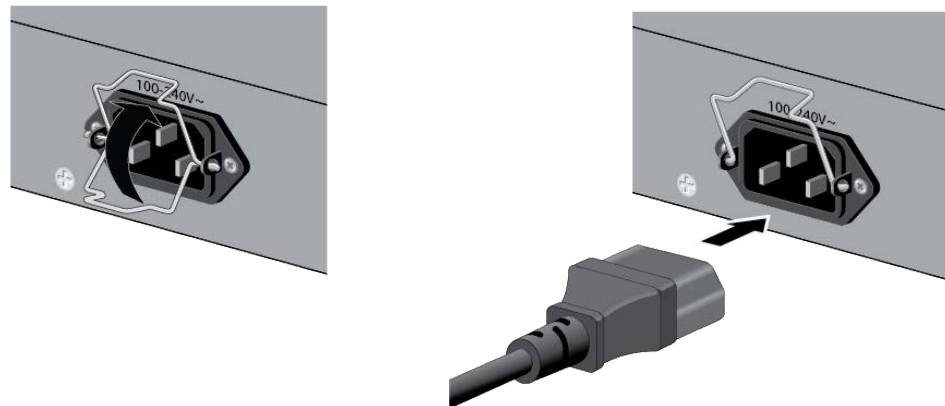

Figure 60. Connecting the AC Power Cord
2. Raise the retaining clip and connect the AC power cord to the AC power connector. Refer to Figure 60.